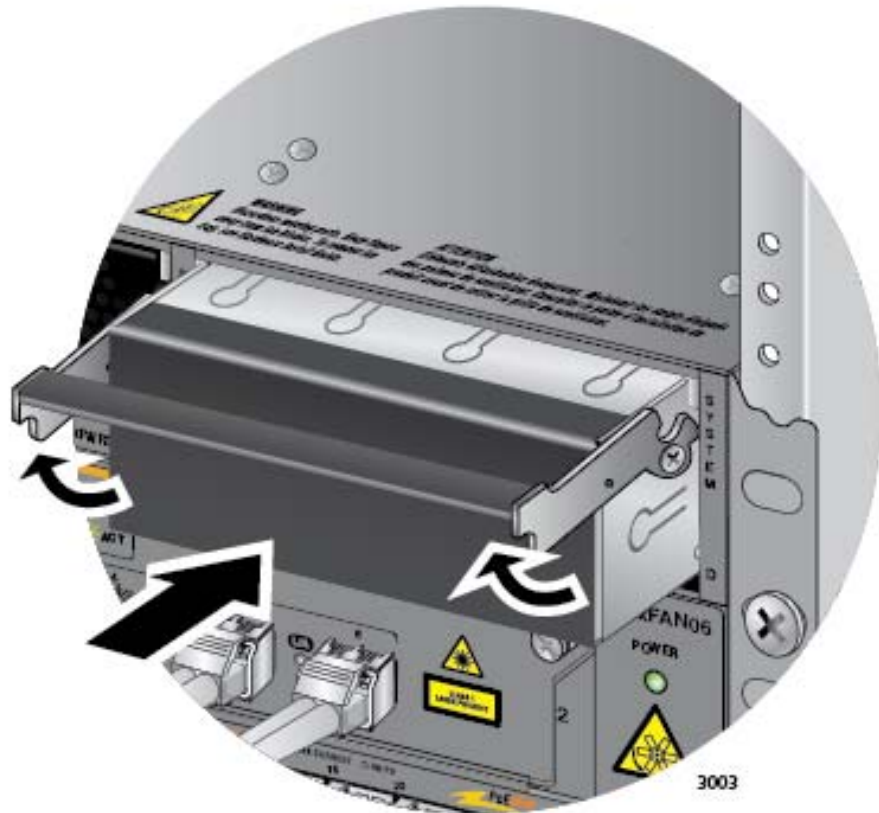

Figure 134. Installing a Blank Power Supply Slot Cover
5. Place the locking handle on the slot cover in the up position and slide the cover into the empty power supply slot. Refer to Figure 134 on page 218.